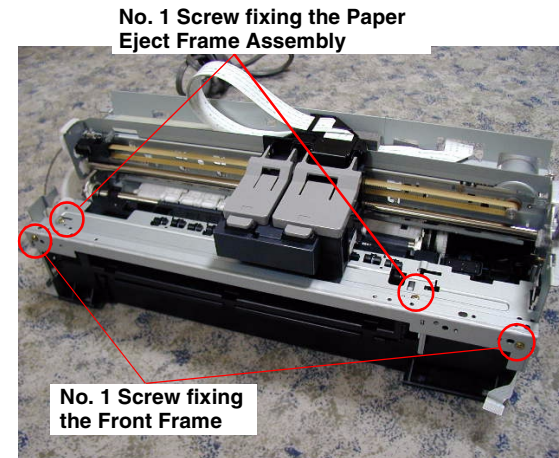

Figure 4-55. Removing the Front Frame & Paper Eject Frame
- 7) Remove two screws (No.1) securing the Front Frame to the Printer Mechanism and remove it. Refer to Figure 4-55.
- 8) Remove two screws (No.1) securing the Paper Eject Frame Assembly and remove it. Refer to Figure 4-55.